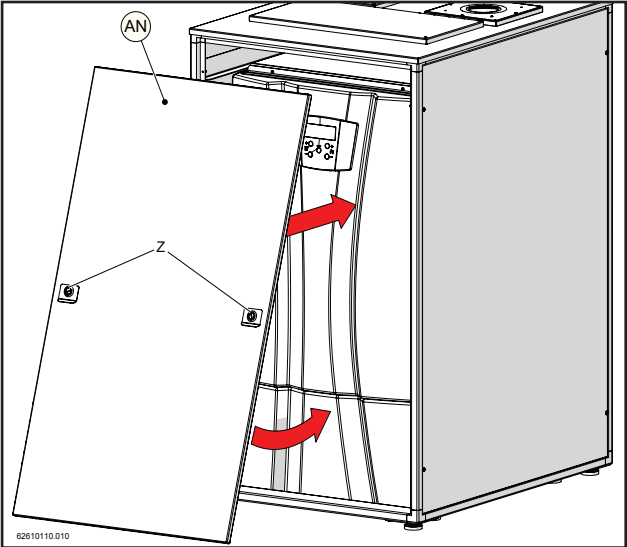
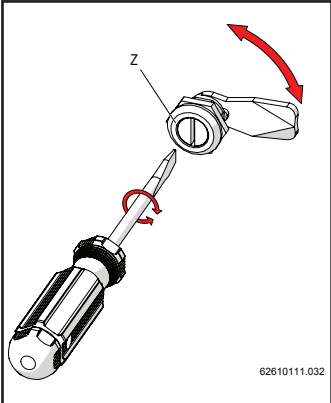

Figure 15-27
Figure 15-29
15.- Put on the front cover (AN) as shown in figure 15-27 and 15-28. Attach it to the structure by tightening locks "Z" with a flat-head screwdriver (figure 15-29).